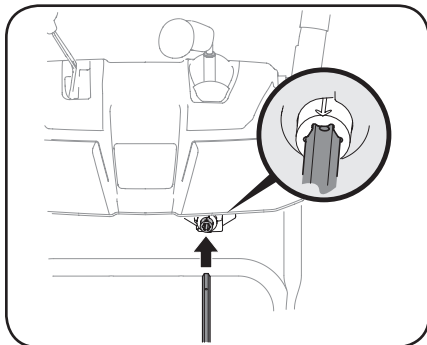

Figure 2-18
6. Insert chute control rod (hole pointing upward) into pinion gear below joystick. See Figure 2-18.